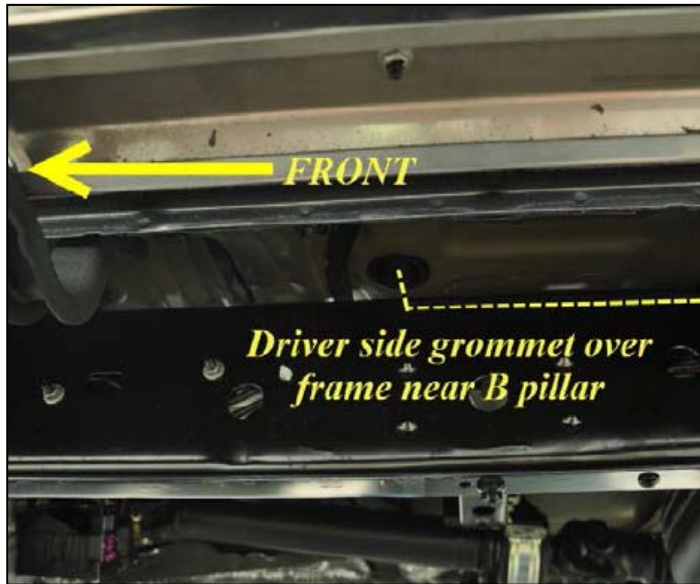

Figure 15
15. Cut a slit in the body grommet from the underside of the vehicle. See Figure 15.